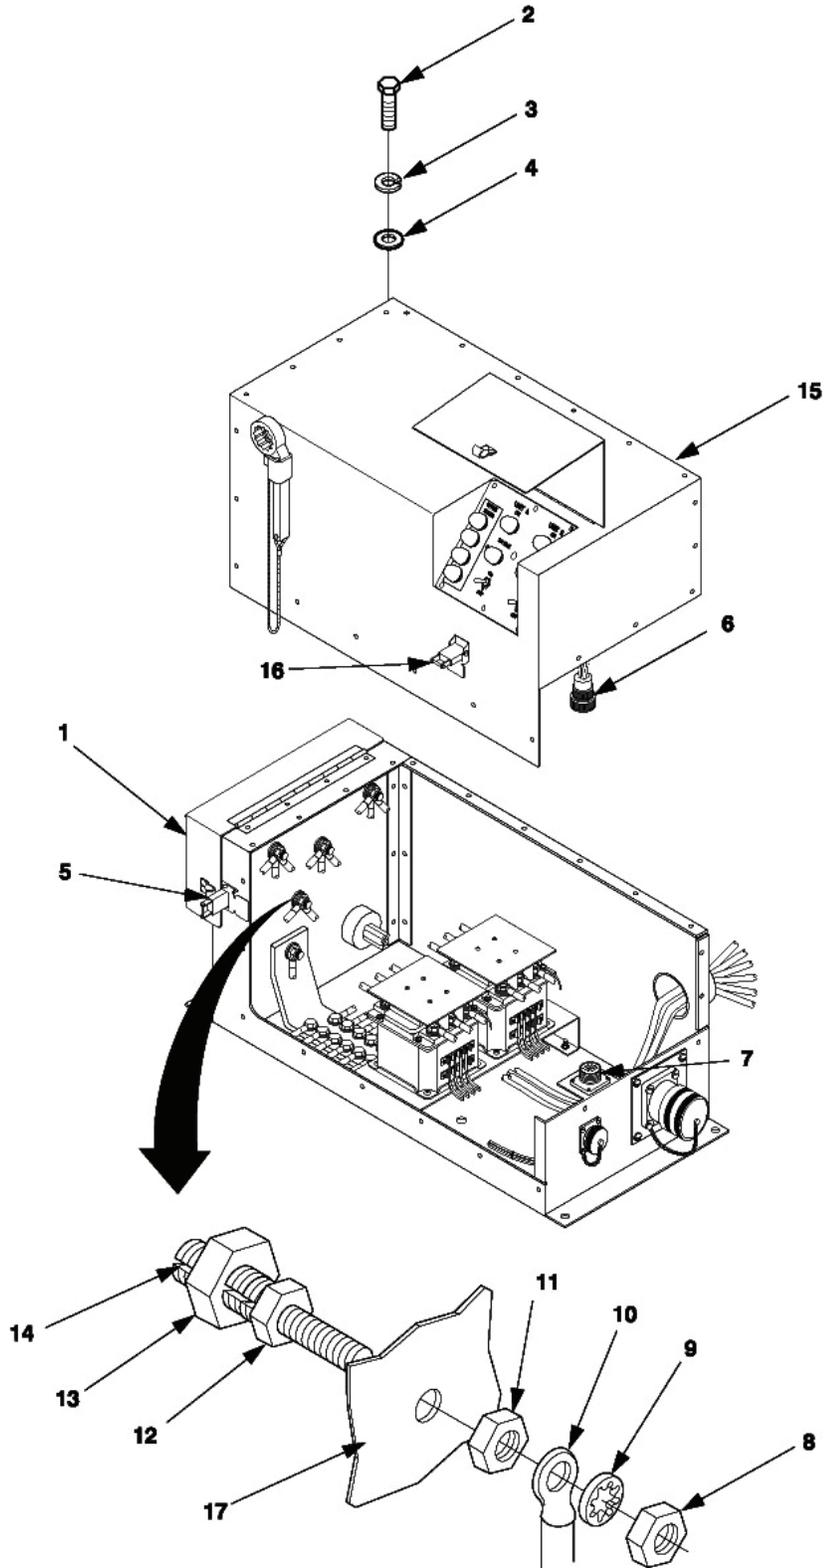
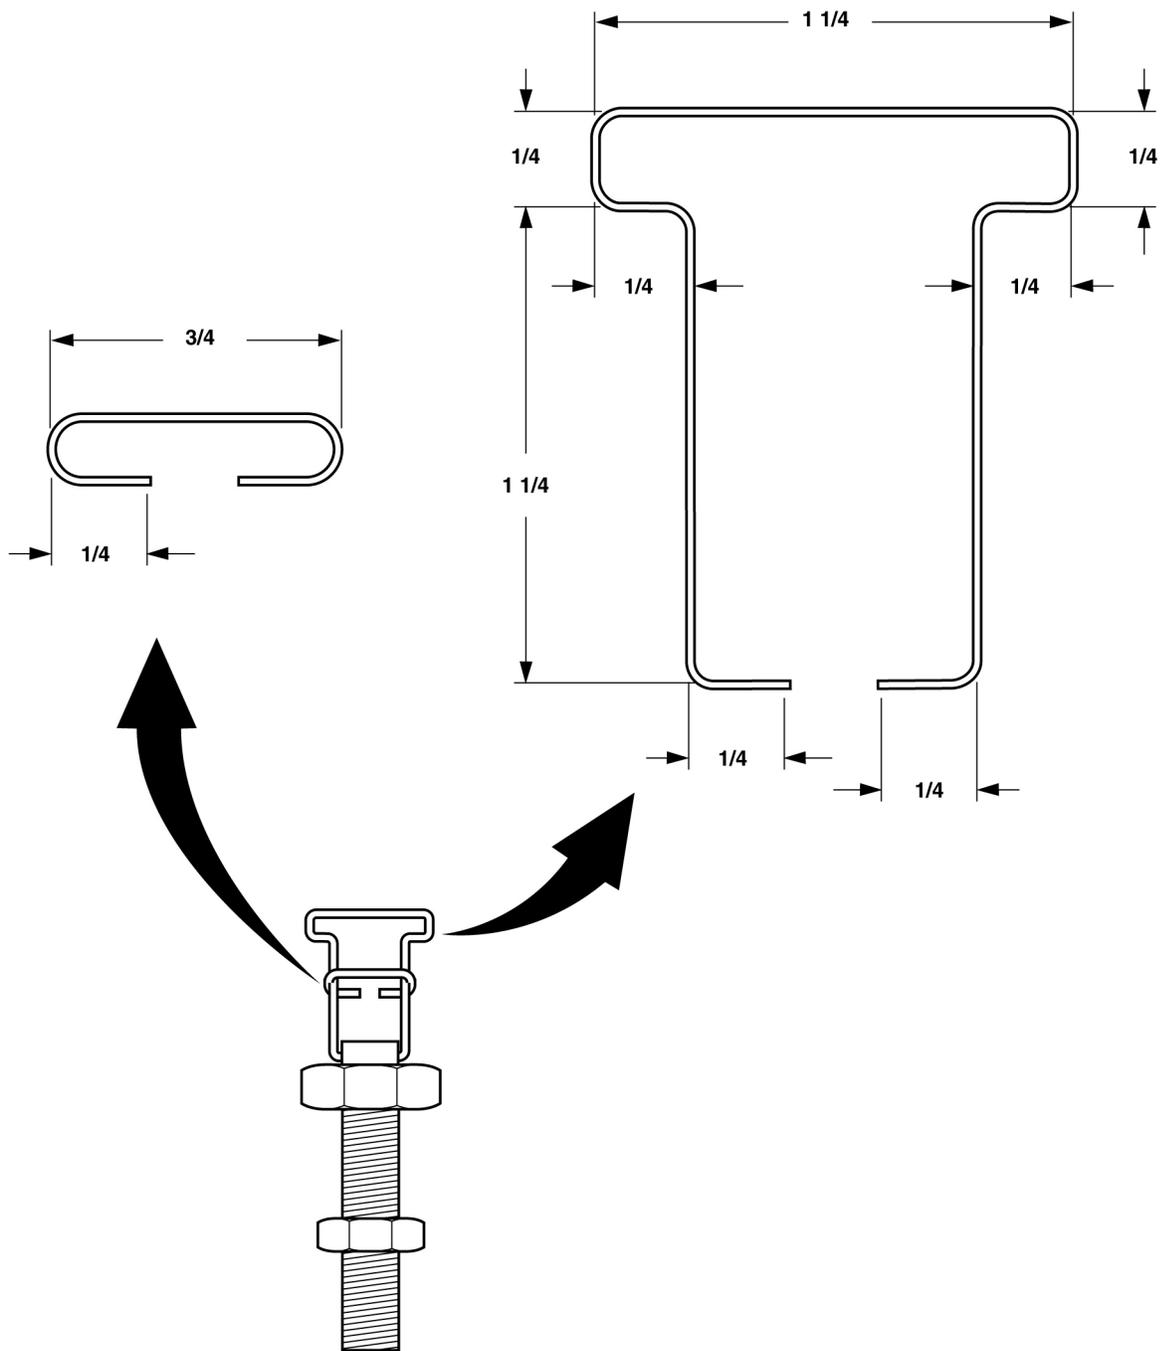

Figure 4-15. Switch Box Load Terminal Maintenance (A Model)
Figure 4-16. Switch Box Load Terminal Repair (A, B, & C Models)
1. Release clamping catch (5, figure 4-15) and open load terminal door (1).
2. Remove cap screws (2), lock washers (3), and flat washers (4). Discard lock washers (3).
3. Carefully position switch box cover (15) in front of switch box assembly.
4. Disconnect P3 (6) from J4 (7).
5. Remove switch box cover (15).
6. Disconnect external load terminal lead from defective terminal (14).
7. Remove nut (8), internal tooth lock washer (9), and leads (10) from defective load terminal (14).
**Repair consists of replacing a missing or damaged bail. Removal of terminal is not required. Any other damage to the terminal requires replacement. The bail is fabricated using bulk wire, item 29, Bulk.**
3. Make sure nut (13) is installed on load terminal (14).
4. Fabricate and install terminal clip in accordance with figure 4-16.
5. Close load terminal door (1, figure 4-15) and secure with clamping catch (5).
1. Release clamping catch (3) and open load terminal door (1).
3. Make sure nut (8) is installed on terminal load (9).